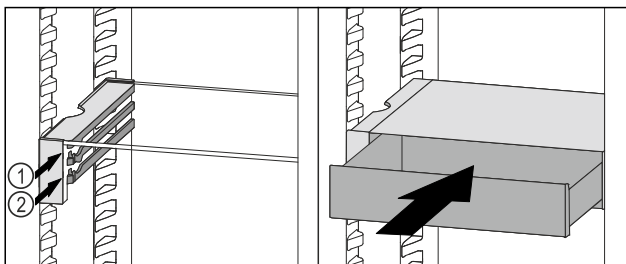

Fig. 197
- Place the VarioSafe drawer behind the stoppers on desired rib *Fig. 197 (1)* or *Fig. 197 (2)*.